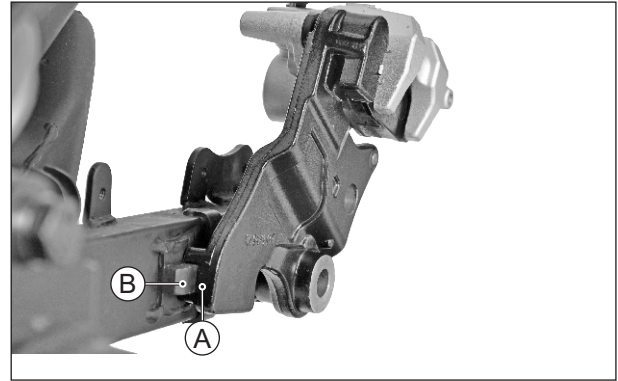

Fig. 6.96
- Make sure that the slot (A) in the bracket complete caliper assembly fits over the stopper (B) on the swing arm assembly. (Fig. 6.96)